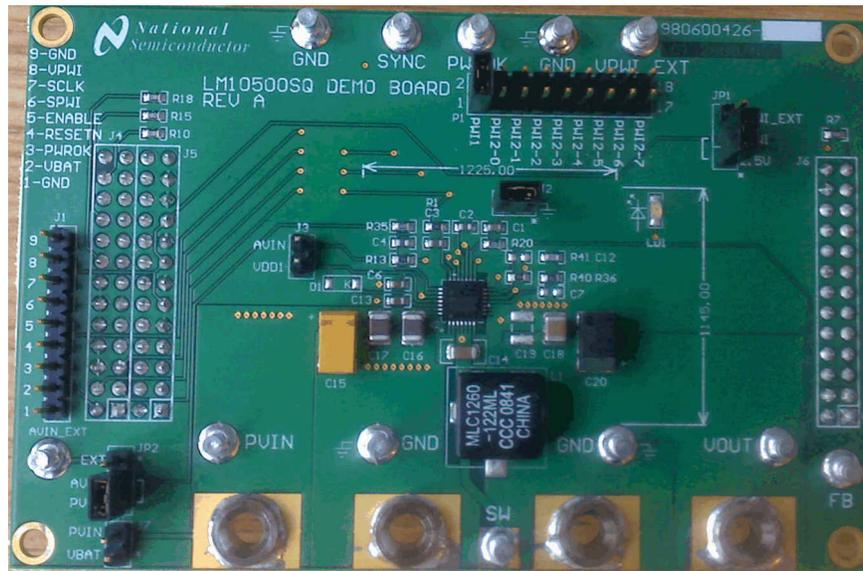

Figure 5-1. LM10500 Evaluation Board
- LM10500 evaluation board, as shown in Figure 5-1